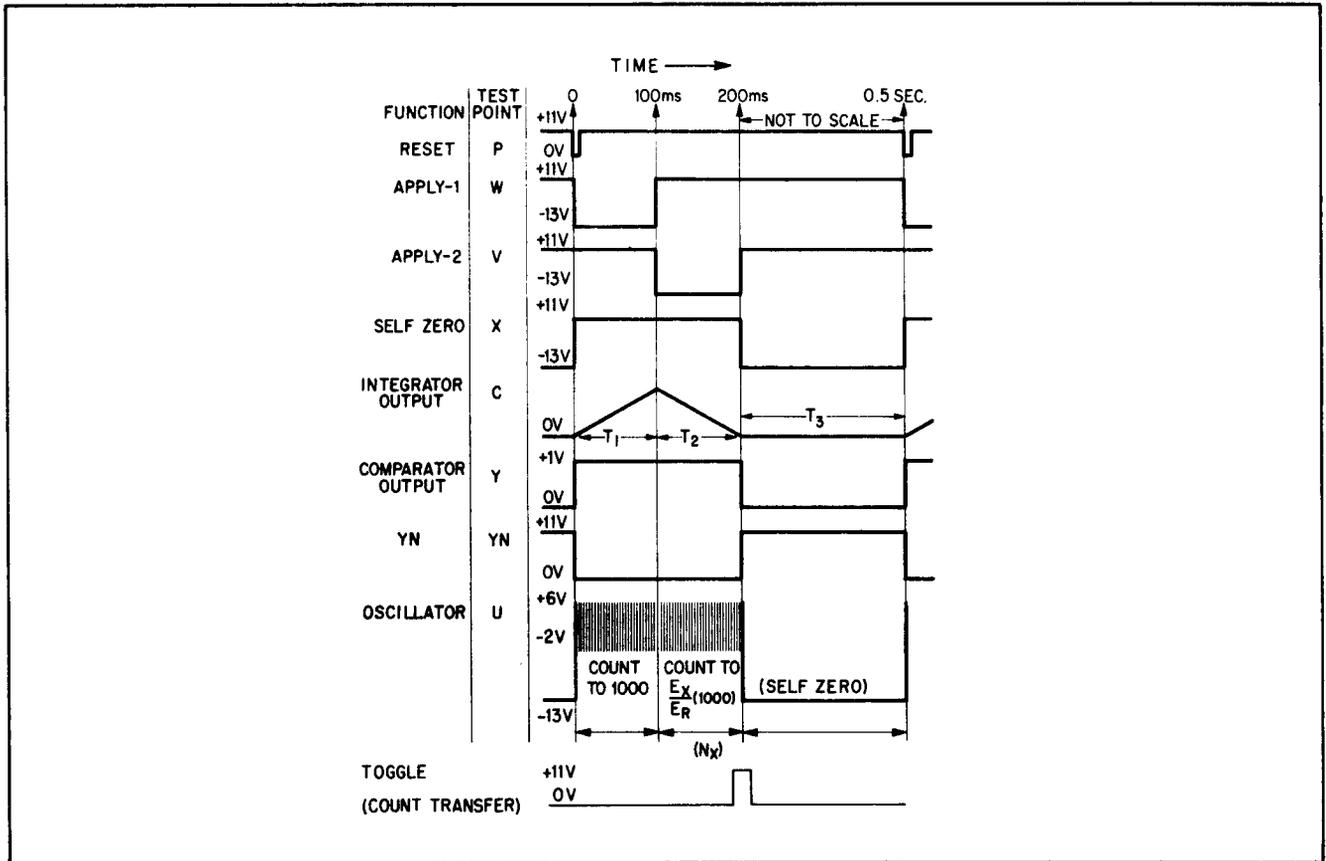

Figure 10. Waveforms - dc to Frequency System
- (1) Connect the trigger input of the scope to test point WW, using a 10:1 probe.
- (2) Set trigger to "external", mode to "AC-HF", slope to "-".
- (3) Set Time/Div. to 50  $\mu$  Sec, Volts/Div. to 0.5V.
- (4) Connect the vertical input to test point U, using a 10:1 probe. The waveform should be as shown in Fig. 10.